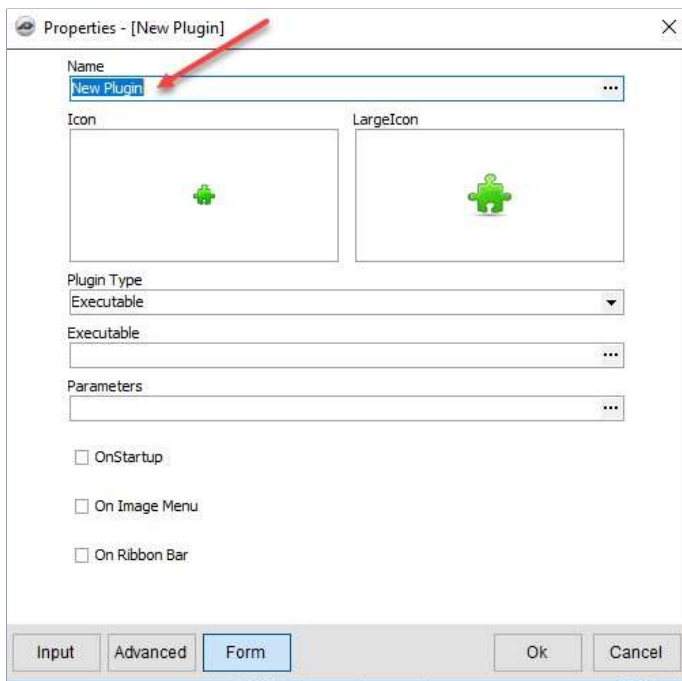

Figure 4
4. In the **Properties - [New Plugin]** window, give the new plugin a name, such as "Stucco" or whatever name you choose for the new plugin (Figure 4).